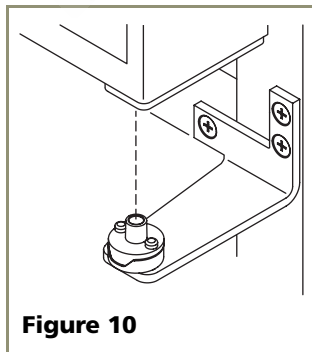

Figure 10
8. Holding door upright with top of door tilted forward, place hole of door pivot plate on bottom hinge screw pin (see **Figure 10**).